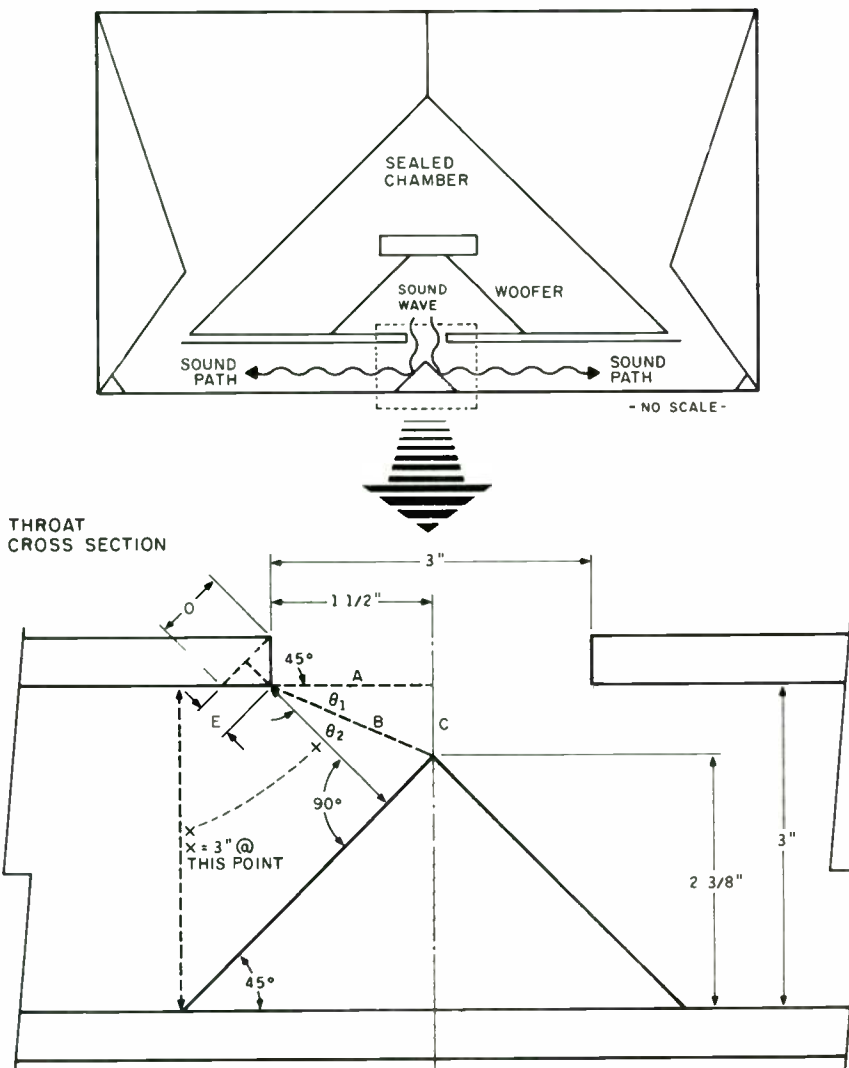
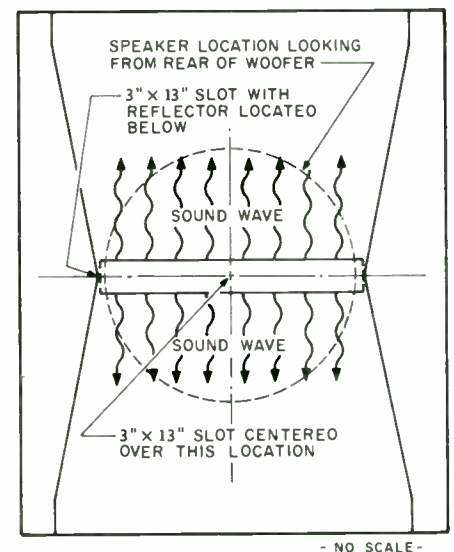

FIGURE 1: Throat cross section. The enclosure's top faces left, as shown here.
FIGURE 2: View from the back of the woofer.
As shown in *Fig. 1*, the SK divides the sound wave going through the slot into two equally dimensioned, exponentially expanding paths (you can't see the expansion in front of the woofer in *Fig. 1* because it is in another plane—*Fig. 2*). The smallest cross-sectional area of the throat
occurs through line X, which can be mathematically calculated to be 1½ inches. Thus, the throat area at this point is approximately 2 by 1½ by 13 (39 in.²). The slot is 13 inches wide at its centerline, but the sound path starts expanding immediately (Fig. 2).
After this "point" is passed, you can see the area expands rapidly until dimension X is 3 inches. If you cut the edge of the 3 by 13-inch slot at a 45° angle (line D in Fig. 1), the width (X) at that point would increase by "E," or 0.353 inches. In this case, the throat area would be 2 by 1.853 by 13 (48 in.²).